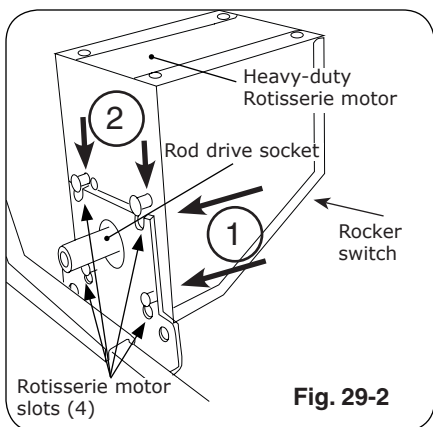

Fig. 29-2
10. Plug-in the rotisserie motor and press the rocker switch to start (Fig. 29-2).